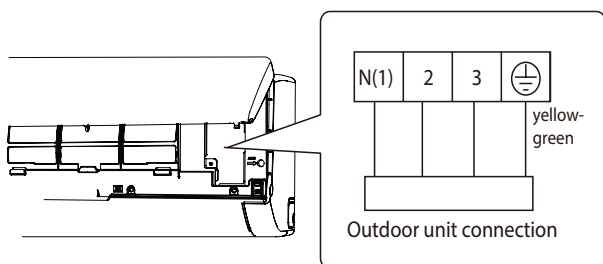

Fig.13
3. Remove the wire clip; connect the power connection wire to the wiring terminal; tighten the screw and then fix the power connection wire with wire clip. (As show in Fig.13)